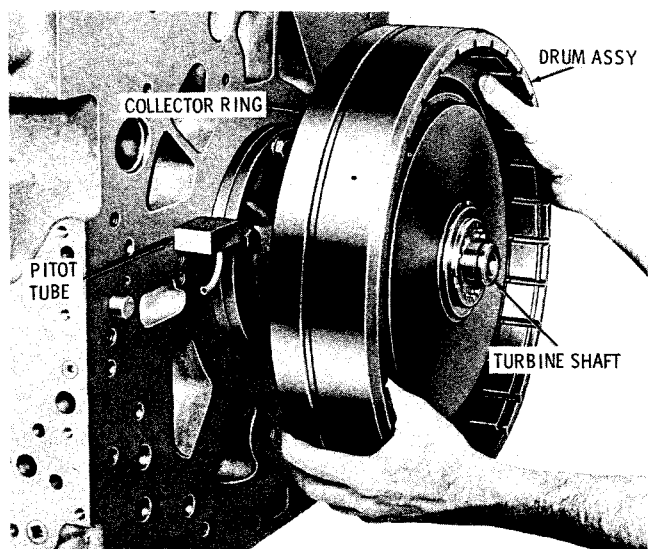

Fig. 7-66. Installing low-splitter clutch drum assembly (CT, CLT, VCLT)
into the pitot tube assembly. Snug the bolt to hold the pitot tube assembly parallel to the work table surface (fig. 7-66).
(5) Install the low-splitter clutch drum assembly onto the turbine shaft (fig. 7-66).